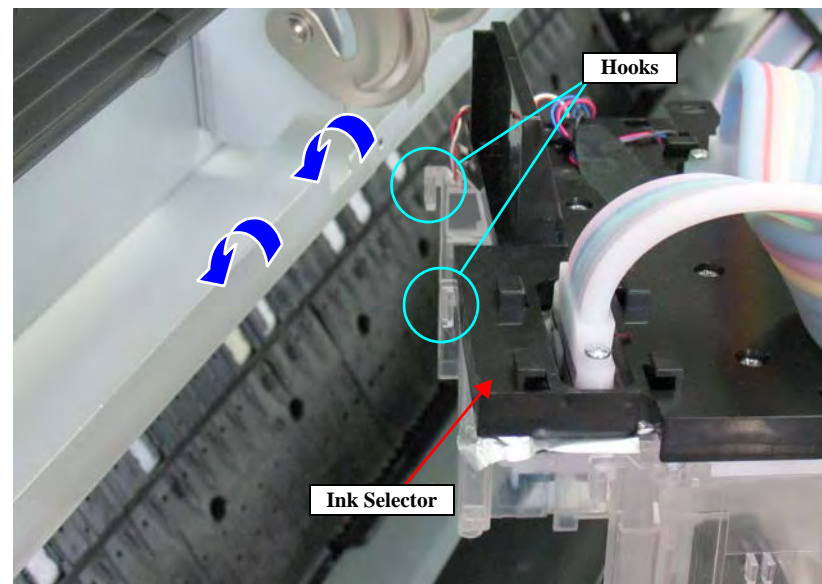

Figure 4-119. Securing the Ink Selector to the main body (1)
15. Attach the hook on the rear of the Ink Selector onto the Main Frame to secure the Ink Selector. *See Figure 4-119.*